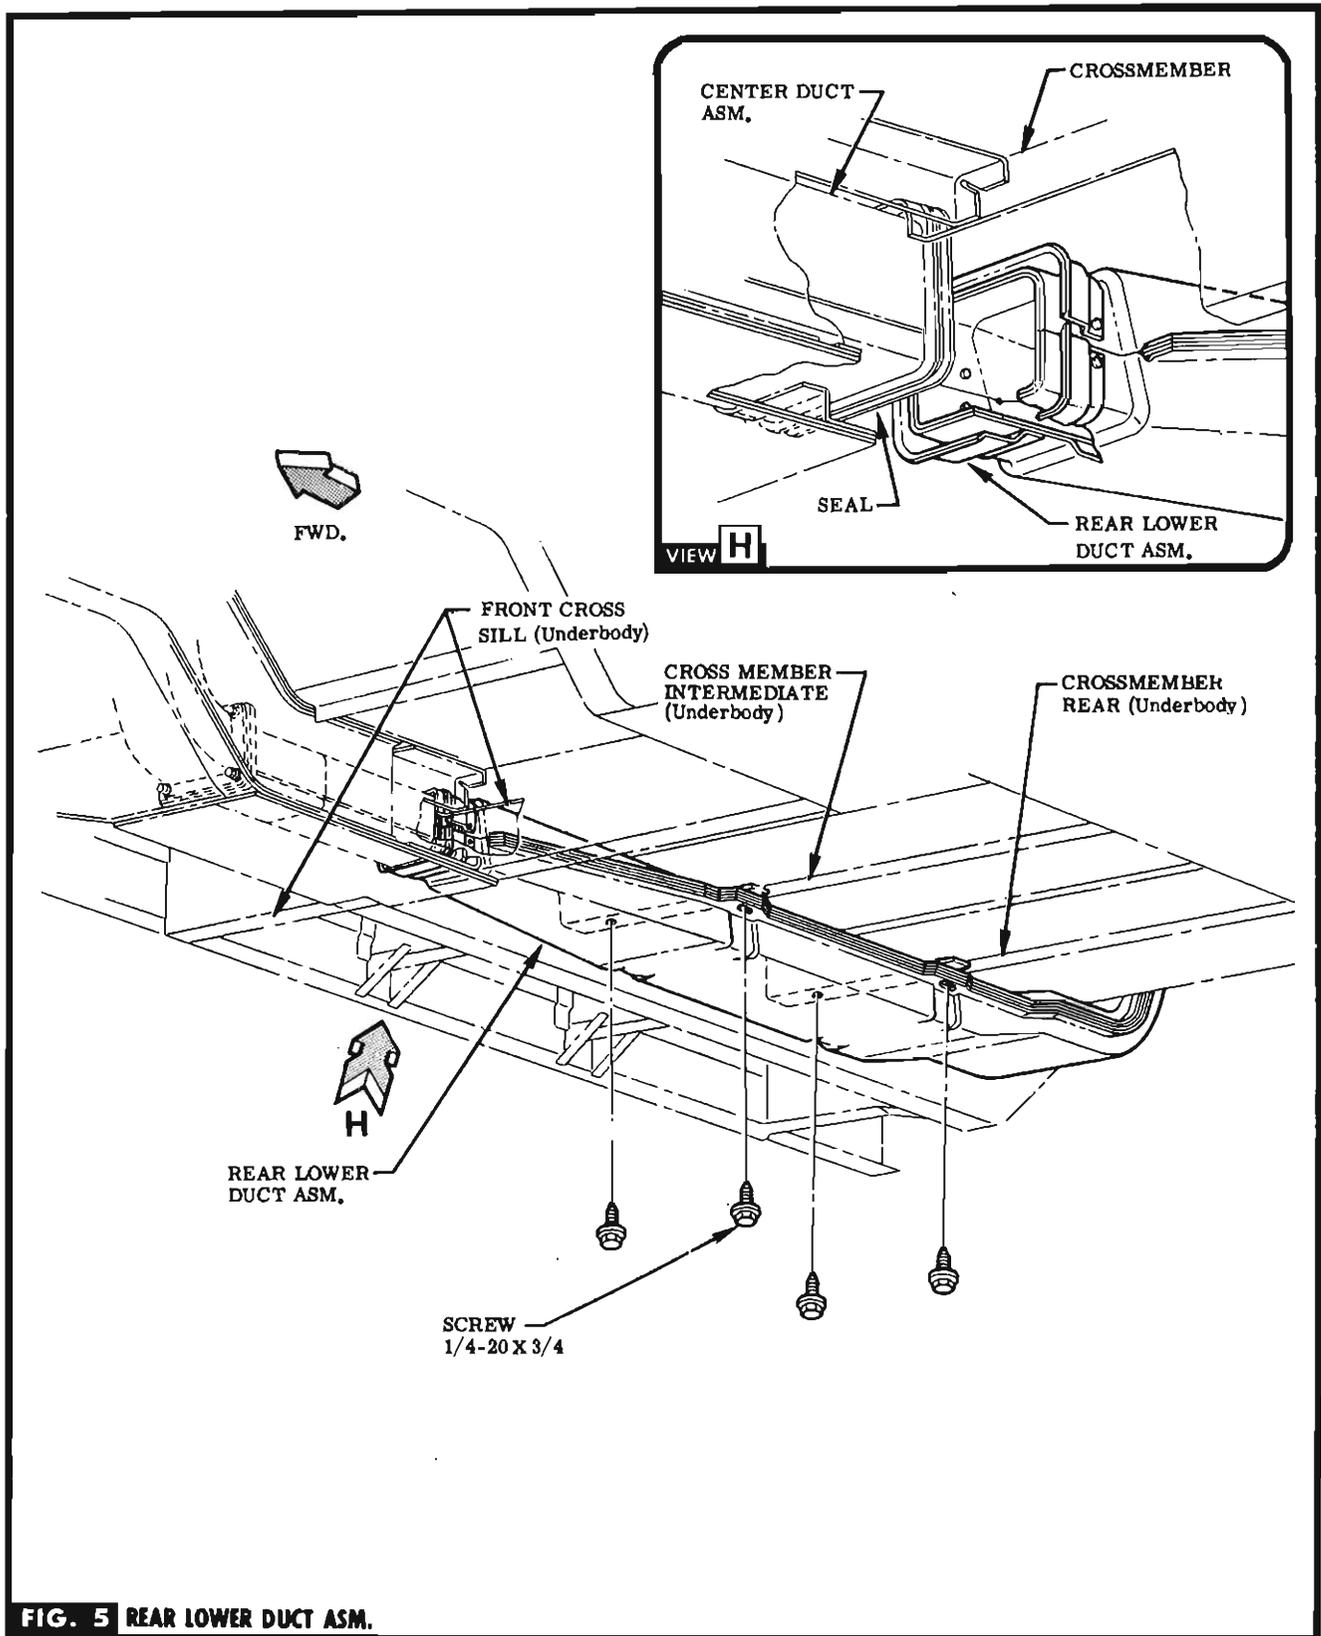

FIG. 5 REAR LOWER DUCT ASM.
MEMBER. SEE VIEW H & FIG. 5.
STEP 27 SECURE LOWER DUCT TO INTERMEDIATE & REAR CROSSMEMBER WITH SCREWS (IN BAG B). SEE FIG. 5.